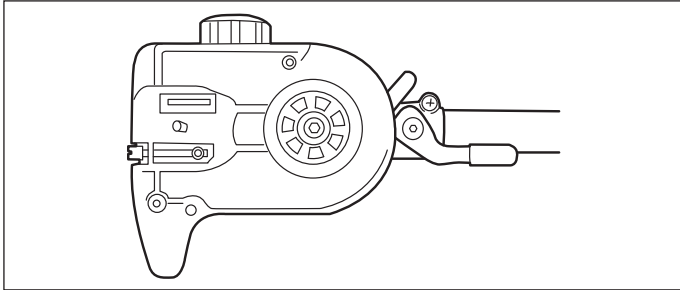

Fig. 22a
- 2). Check the oiling port (D14) for clogging and clean if necessary to ensure proper lubrication of the guide bar and saw chain during operation. Use a soft wire small enough to insert into the oil discharge hole. (See Fig. 22a)